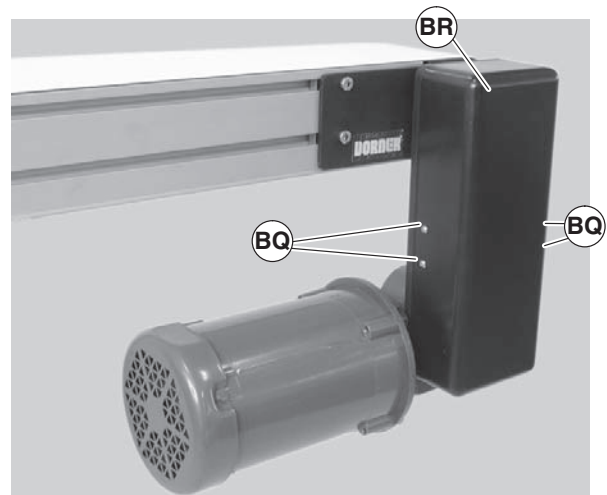

Figure 60
- Remove four (4) screws (Figure 60, item BQ) and remove cover (BR).